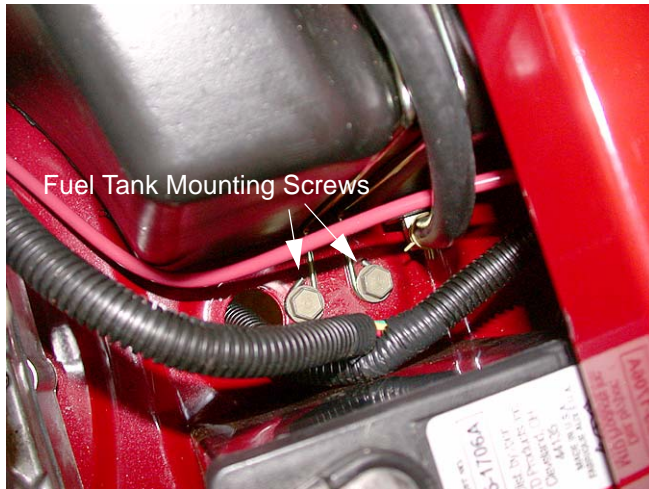

Figure 15.3
- 15.3. Remove the two screws securing the fuel tank mounting wire to the frame using a 1/2” socket. See Figure 15.3.